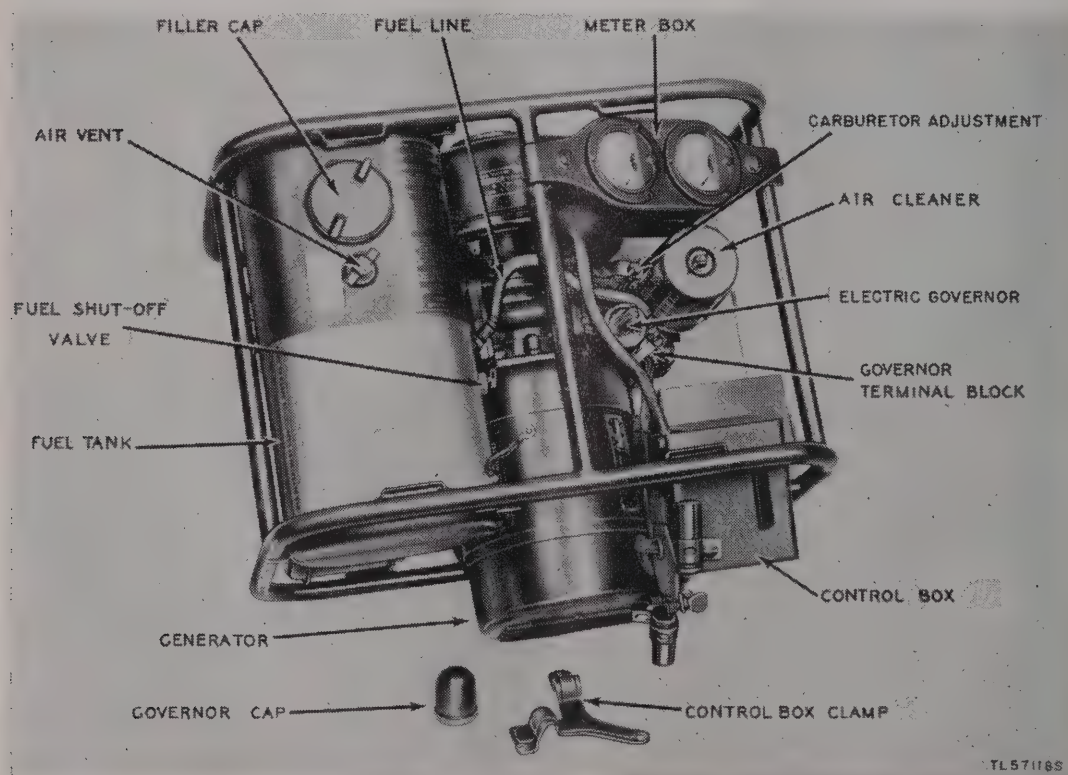

Figure 20. Fuel system and governor wiring connections.
- (1) *Removal.* Remove engine and generator from tubular frame as follows:
- (a) Close fuel shut-off valve (fig. 20) and disconnect fuel line at carburetor.
*c.* Connect leads from the generator to the electric governor (fig. 20). Insert the engine and generator assembly in power unit frame and attach to subframe with the four screws and lockwashers. Place the lockwashers between the engine and the subframe as well as under the screw
a. REMOVAL (fig. 20). Remove the air cleaner and disconnect the fuel line from the carburetor float bowl. Disconnect the lead wire at the electric governor. Remove the four screws holding the carburetor to the crankcase, lift off the carburetor, and remove the gasket.